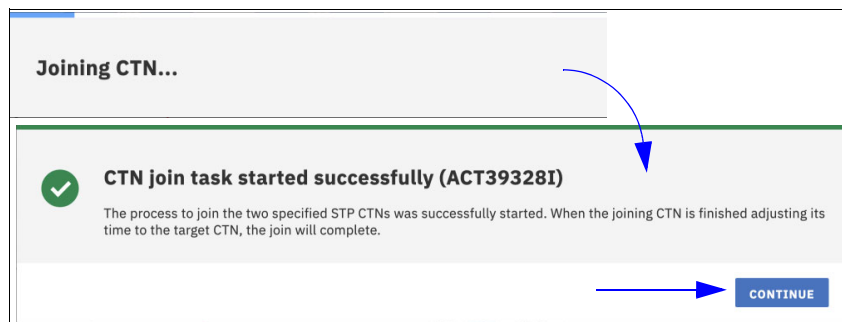

Figure 5-5 Joining CTN progress and successful starting messages
- The process starts. When the process finishes, verify that it was successful (Figure 5-5).